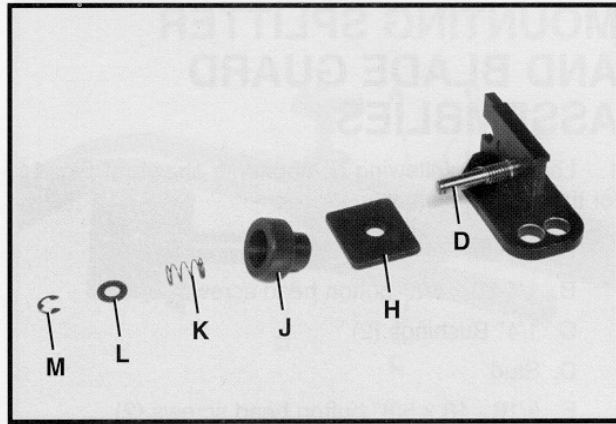
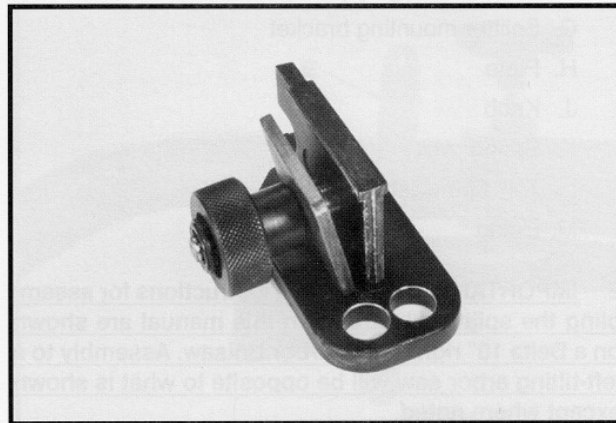

Fig. 18
Fig. 19
5. Loosely assemble plate (H) Fig. 18, knob (J), spring (K), flat washer (L) and E-ring (M) onto stud (D) as shown assembled in Fig. 19.